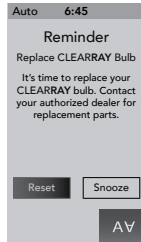

Figure 15.0c
21. ClearRay Replacement Reminder: This message will appear when the ClearRay bulb reminder time has expired (Figure 15.0c). The ClearRay bulb must be replaced.